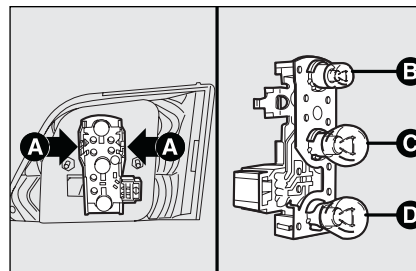

fig. 35
- push the bulb holder side tabs **A**-fig. 35 inwards to remove it;